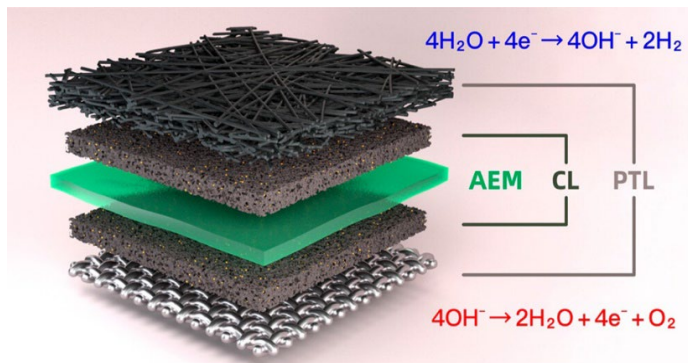

Figure 1: AEMWE cell structure with half-cell reactions [2]
Anion exchange membrane water electrolyzers (AEMWE) are electrochemical devices that split the water molecule into H_2 and O_2 when a DC current is applied. AEMWE are a novel yet promising technology for hydrogen production due to their low cost and relatively high efficiency. A simple representation of the AEMWE cells is shown in figure 1, where the membrane is situated between the anode and the cathode, each containing a catalyst layer (CL) and a porous transport layer (PTL). The CL is where the electrochemical reaction happens (half-cell reaction equations written in figure 1), while the PTLs are responsible for evacuating the produced gases from the cell.